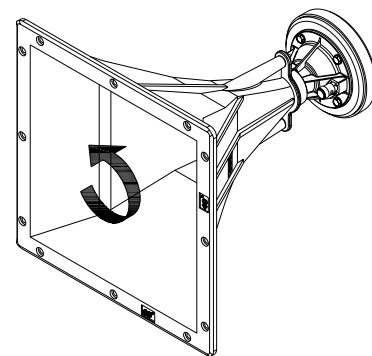

Figure 10:
3. Rotate the horn 90° to the desired vertical coverage pattern (Figure 10).